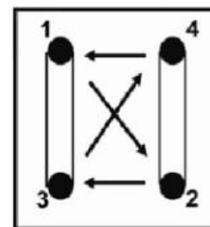

Figure 20
2. Tighten all nuts in equal increments using the sequence shown until the nuts seat (See **Figure 20**).
- 3. For 0.375" (3/8") and 0.50" (1/2") U-bolts, torque to specification using the sequence shown (See **Figure 20** and **Table 3**).
- 4.1. Using the sequence shown in **Figure 20**, torque in 100lb.-ft. increments until the final torque specification is reached (See **Table 3**).